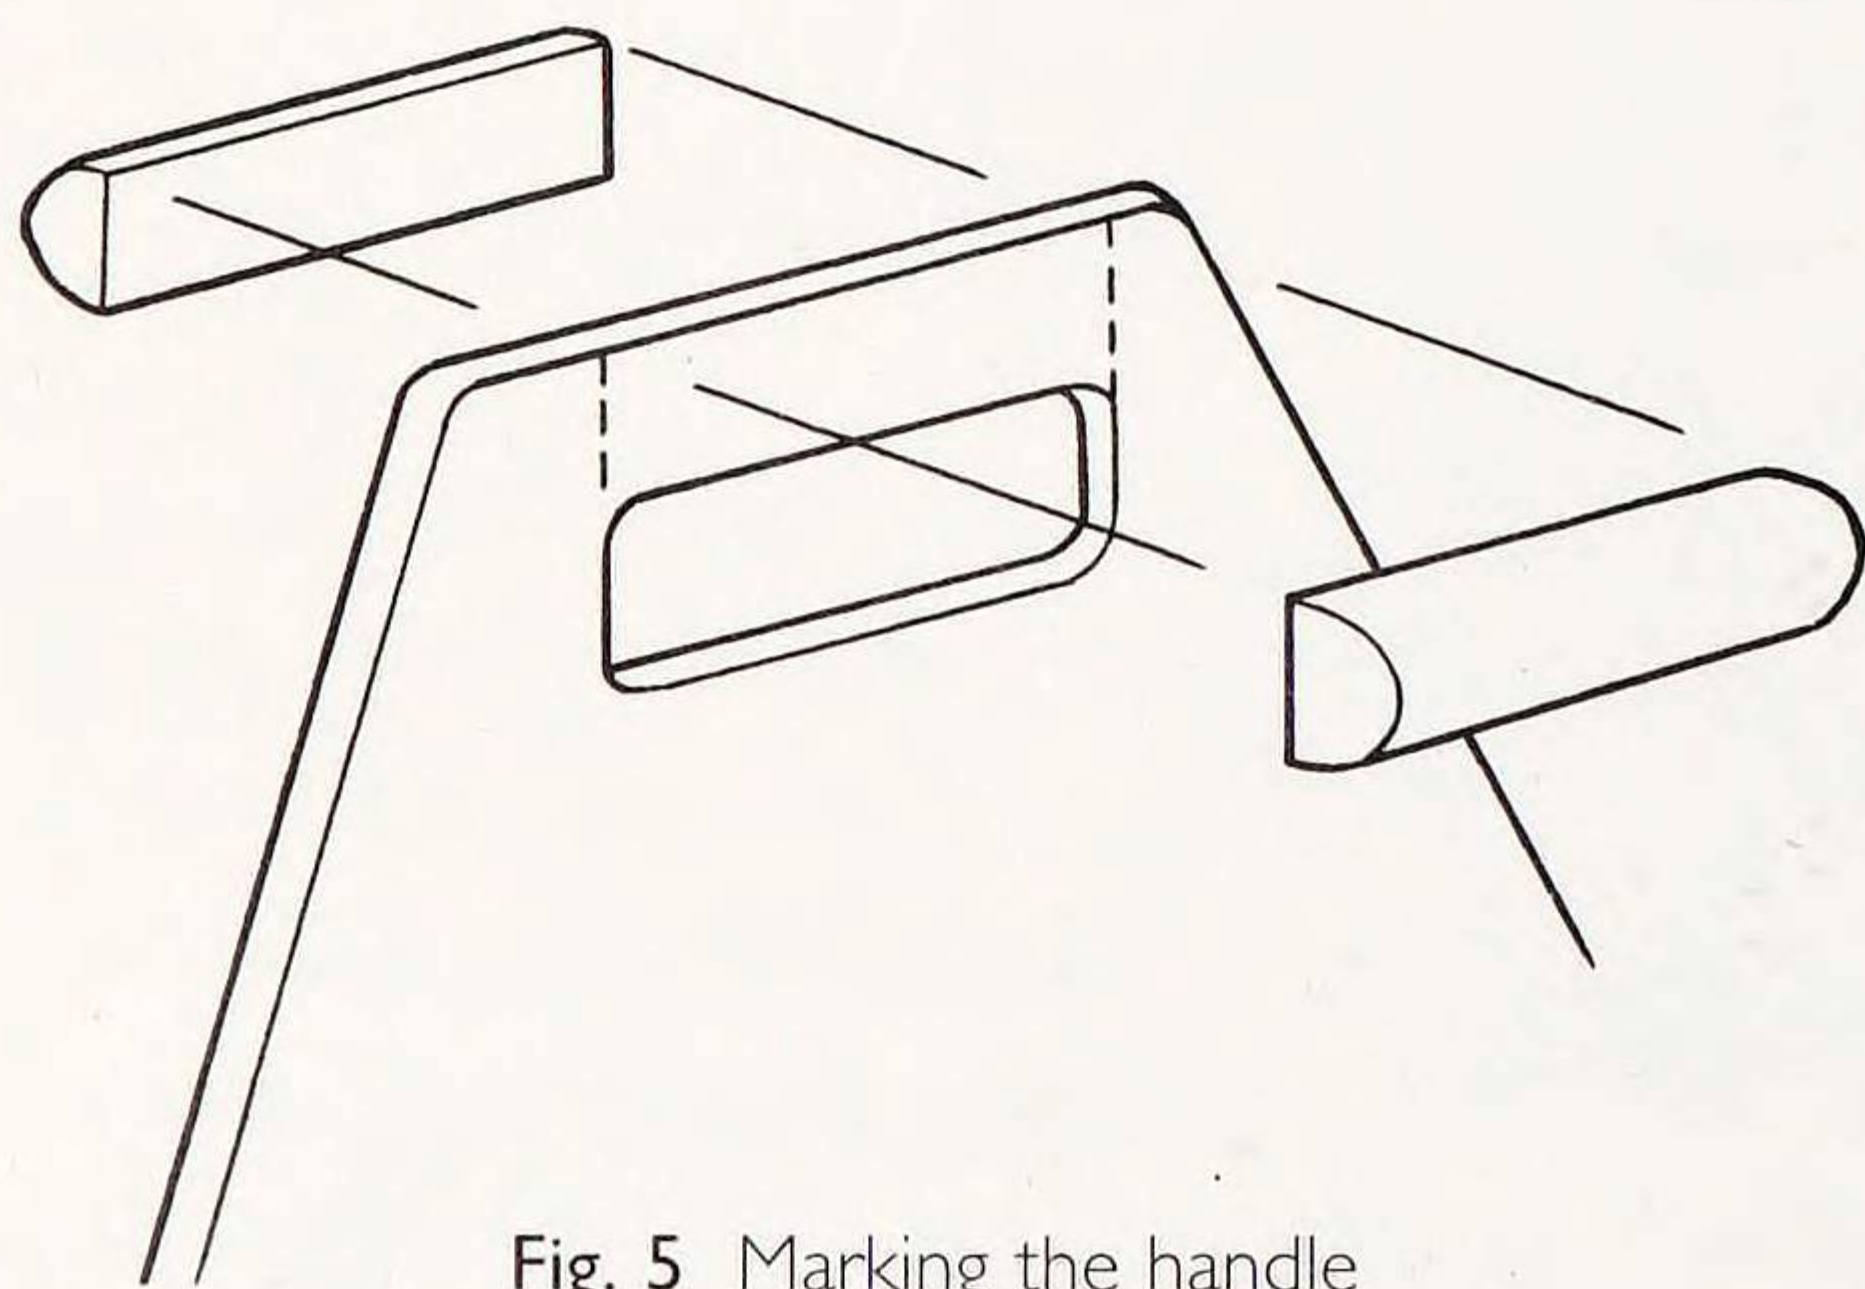

Fig. 5 Marking the handle
4. Make the handhold in the centre fin. For this, use a coping saw or jigsaw to cut the hole and then chisel or file the edges and sand them. Apply two half round pieces with glue to give a more comfortable handhold (Fig. 5).